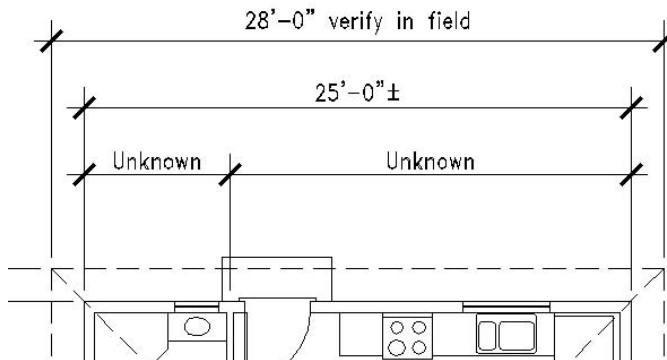

FIGURE 11.35: The new view of the upper floor plan and its dimensions
1. Zoom and pan to a view of the upper portion of the floor plan so that the horizontal dimensions above the floor plan are visible (see Figure 11.35).